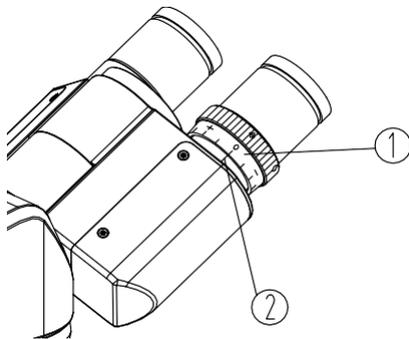

Fig.11
Observe the right eyepiece with the right eye, focus it until the image is clear. Then observe the left eyepiece with the left eye, if the image is not clear enough, rotate the dioptre adjustment ring ① until the image is clear (See Fig.11).